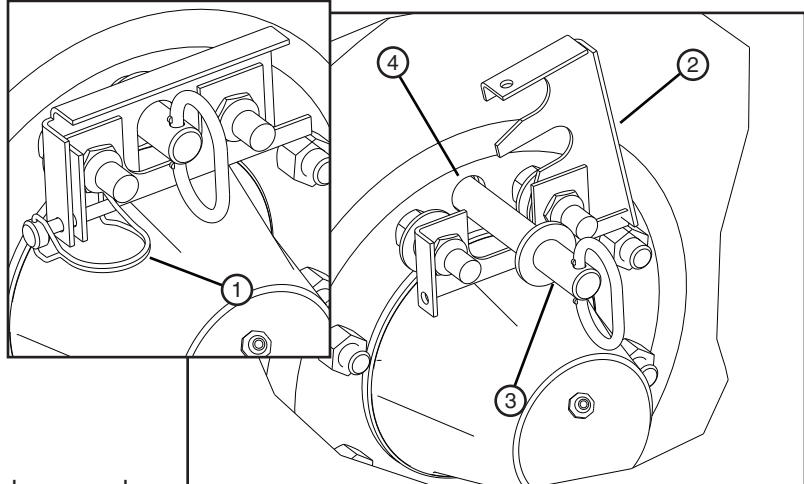

Figure 82-1 1. Lynch Pin 2. Retainer Clip 3. Torque Pin 4. Hub Torque Pin Receiver
5. Remove lynch pin from retainer clip, then open retainer clip and pull the torque pin from axle torque arm behind gearbox hub and hub torque pin receiver. See figure 82-1.